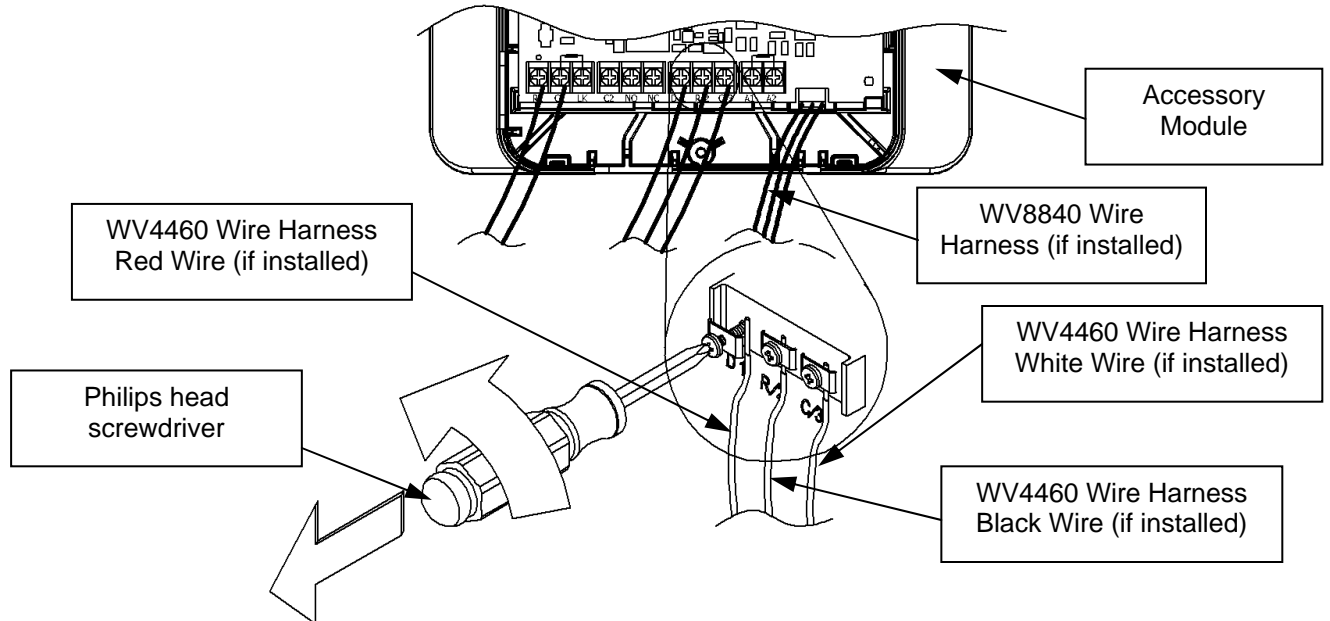

Figure 42
Step 15: If the water heater gas control has an intermittent pilot (WV4460 gas control), the connection, "D/1," is already being used. This same connection point is used to connect the Setback Control. Loosen the screw "D/1." This is shown in Figure 42.